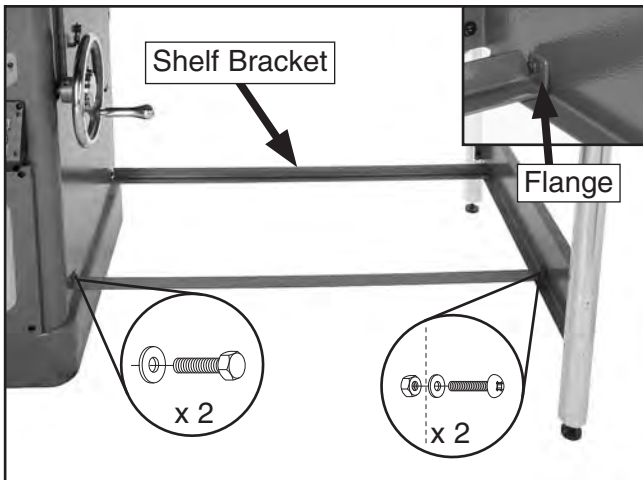

Figure 22. Shelf brackets installed.
- Place the shelf brackets between the cabinet and support legs, and fasten with two M6-1 x 12 Phillip head screws, two M6-1 x 12 hex bolts, four 6mm flat washers and two M6-1 hex nuts, as shown in **Figure 22**.